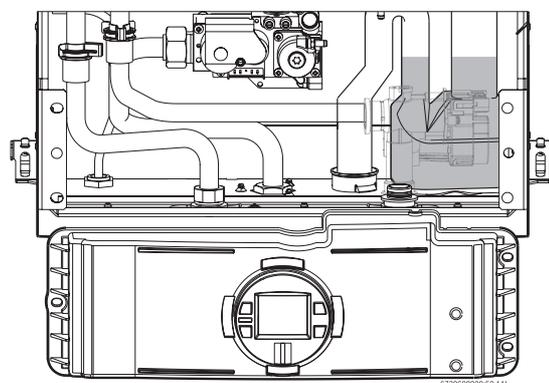

Fig. 22 Water level in condensate trap
- ▶ Put the control unit in service position by engaging its tabs with the holes in the bottom horizontal sheet metal, see Fig. 22.